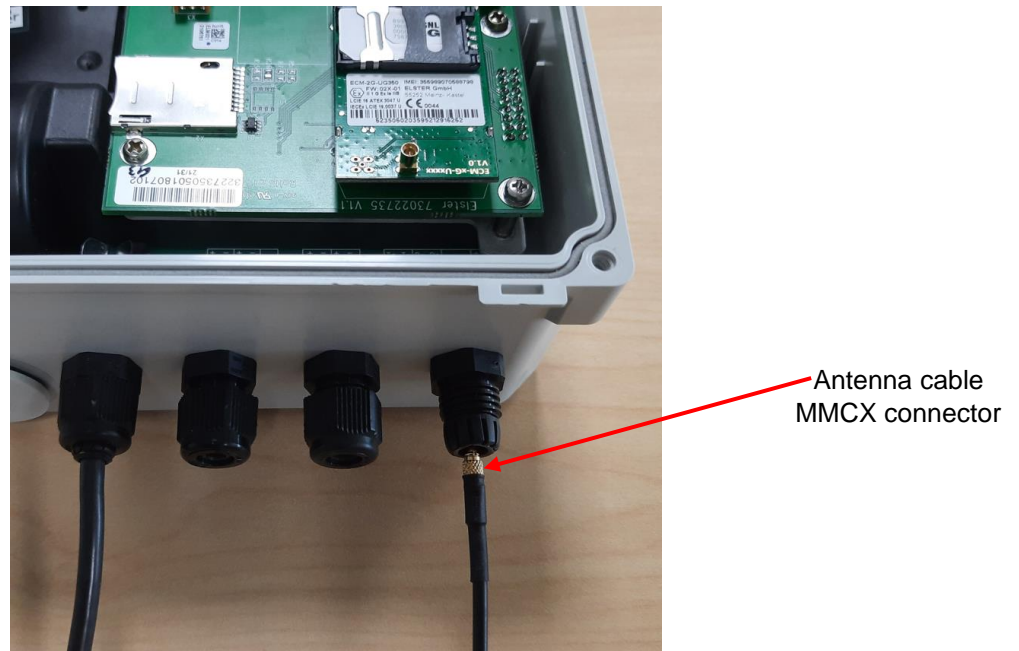

Fig. 32: External antenna cable MMCX connector with the default cable busing for antenna
- Insert the external antenna MMCX connector end through the cable bushing as shown in the fig. 32. (the default cable bushing used for the antenna cable is the rightmost one)